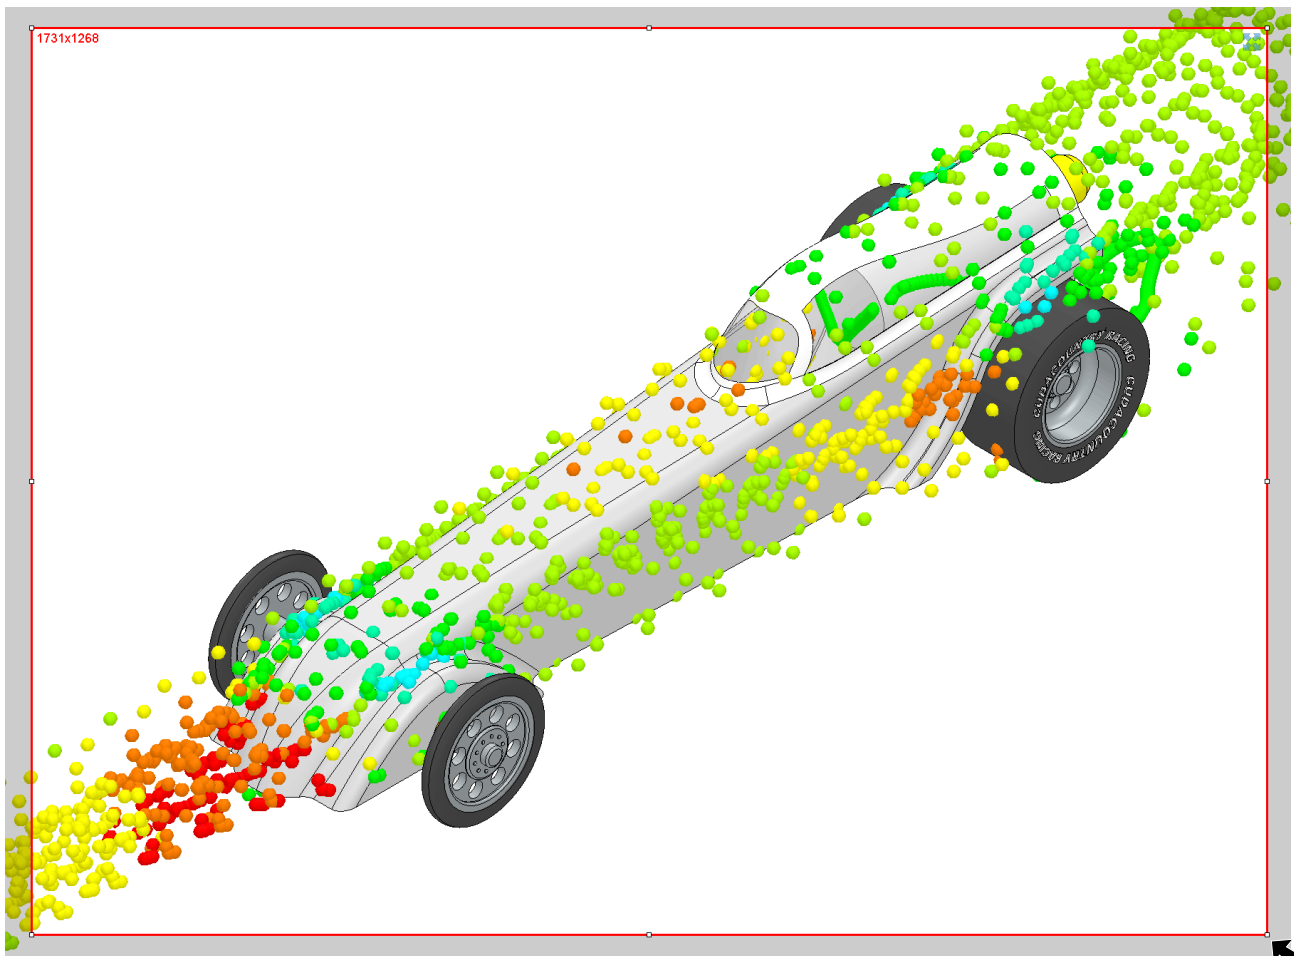

Fig. 33
Step 3. Drag the red frame capture region in graphics area to resize/move capture region, Fig. 33.